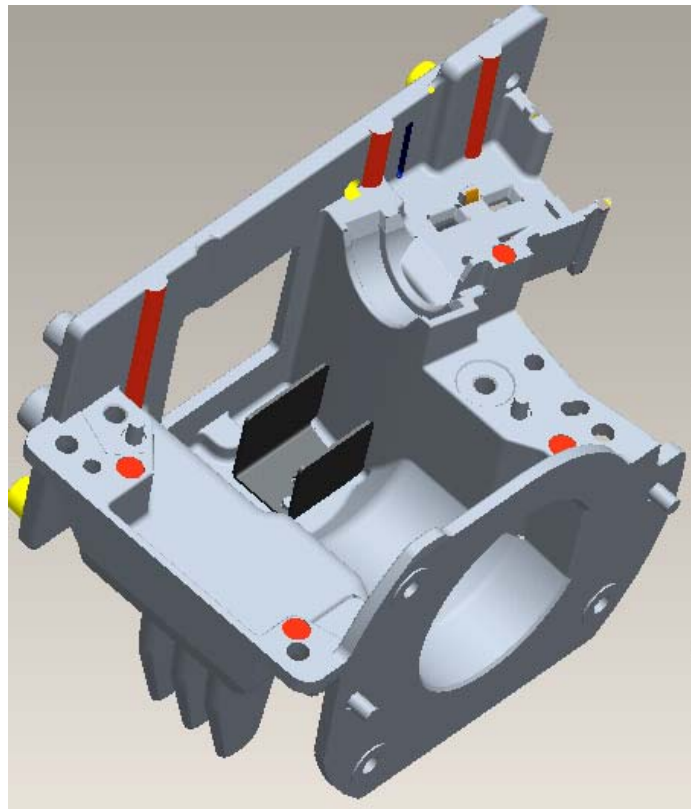

Fig. 4-1
4.1. Assemble Baffle Stop AL on HSG DMD and fasten screw (Fig. 4-1)